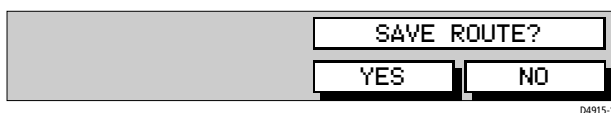

Figure 3-38: Save Route Soft Keys
4. If the route has not been saved the SAVE ROUTE soft keys are displayed as shown in *Figure 3-38*.